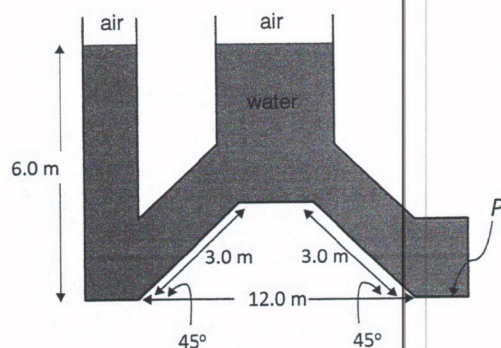

Figure 1.52
27. Water at  $25^\circ\text{C}$  fills the irregularly shaped container in Figure 1.52. What is the absolute pressure  $P$  in psia at the position noted? The apparatus is open to the atmosphere at the top. The apparatus is 100.0 cm thick into the page.